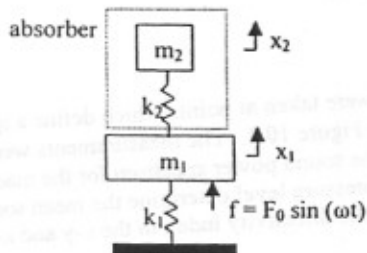

Figure 10.2 Mechanical system with an absorber.
- (10) c) To cancel the vibration in a mechanical system being operated at its natural frequency, an absorber can be added. This situation is shown schematically in Figure 10.2. An ideal absorber would have the same natural frequency as the main system. If the main mass is 7 kg and the main spring has a stiffness of 13 000 N/m: